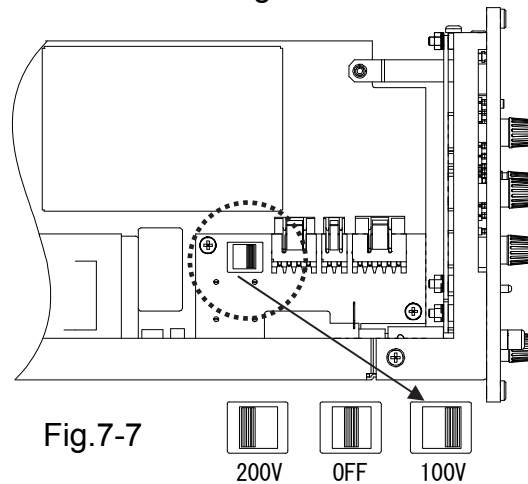

Fig.7-7
3. The AC power supply selection switch is positioned at the location shown in Figure 7-7. Selection to 200 VAC, OFF, and 100 VAC is available. Voltage switching is available by sliding the switch to the target voltage position. The fuse can support both 100 VAC and 200 VAC. The installed fuse (100 VAC/200 VAC, 100 mA: 0334-3006) can therefore be used for both supply voltages.